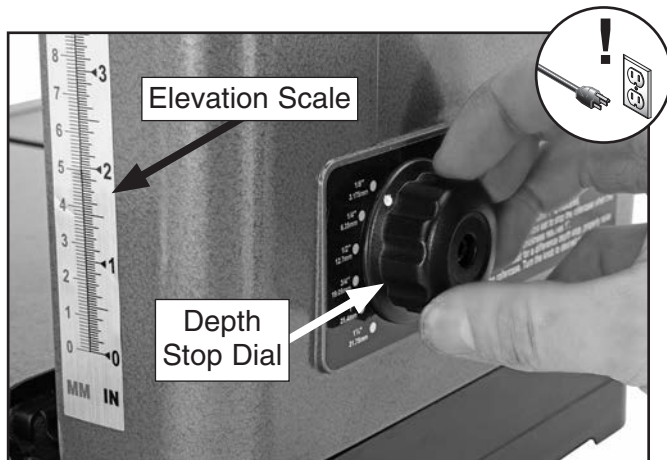

Figure 47. Removing dial from machine body.
2. Remove depth stop dial from machine (see **Figure 47**).